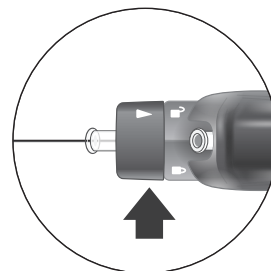

Figure 14
19. Rotate the wire lock on the proximal end of the handle to the unlock position (Figure 14) and push the basket wire distally to remove it from the funnel.